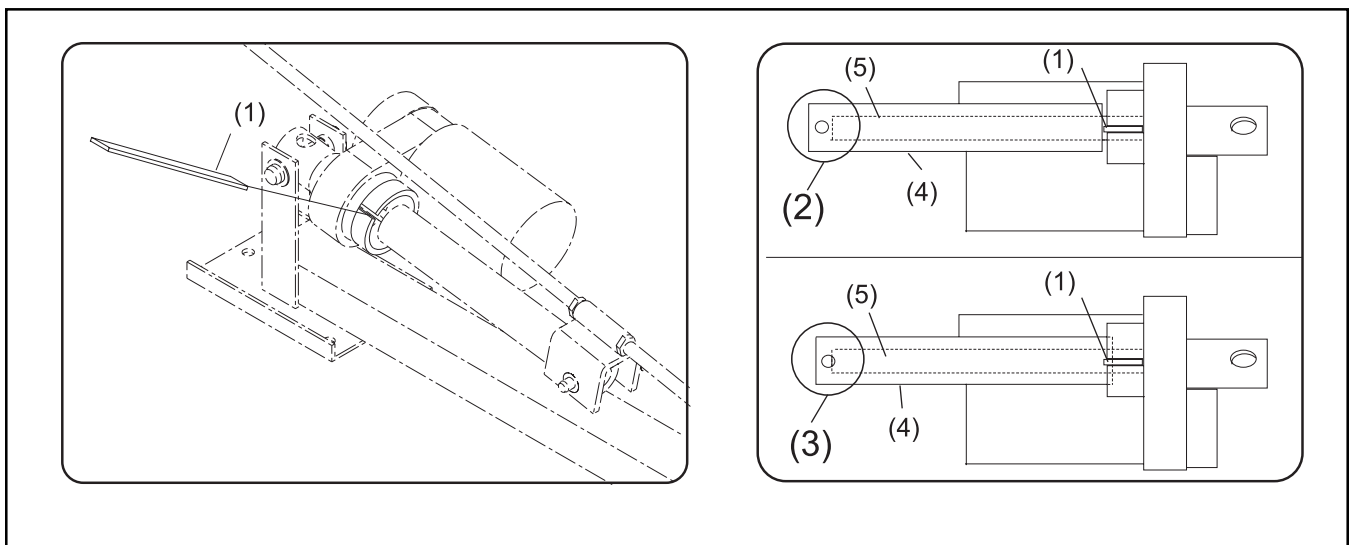

Figure 2. Use Gage to Determine if Interference Exists
- d. Insert a go-no-go gage (part number 17-300270-000) into the slot of sleeve casting. Refer to *Figure 2*. If gage fits into slot as shown, and end of gage contacts the drive screw, no drive pin interference exists and additional adjustments are NOT necessary. If the gage does not fit into slot or contact the drive screw, proceed to step 2 to make cam switch adjustment.
- d. Insert the go-no-go gage (part number 17-300270-000) into the slot of motor sleeve casting. Refer to *Figure 2*. If gage can be inserted and contacts the drive screw, remove gage and cycle the bumpers (raise and lower) several times while verifying that the cam switch indicates correct open or closed bumper status. If gage does NOT insert into the motor sleeve casting, go to step 3.